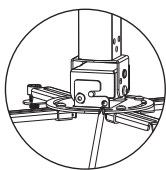

figure 10
1.Looseen the positioning screws (front and back) for adjusting the angle, and then rotate the screwdriver for fine turning to the required angle as figure 10.